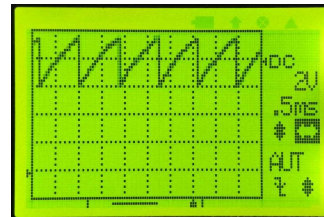

Fig. 6
- 1) Set couple switch to DC. Set V. Sen. 1 switch to the "1V" position and V. Sen. 2 switch to the "X2" position. (i.e. sensitivity is set to 2V/Div). Adjust the 0V to the second last line on the vertical scale. (See Fig 6)
- 3) Set the switch on probe handle to X1 position and connect probe tip to the test signal output ring. You should see a waveform similar to that shown in Fig 6.